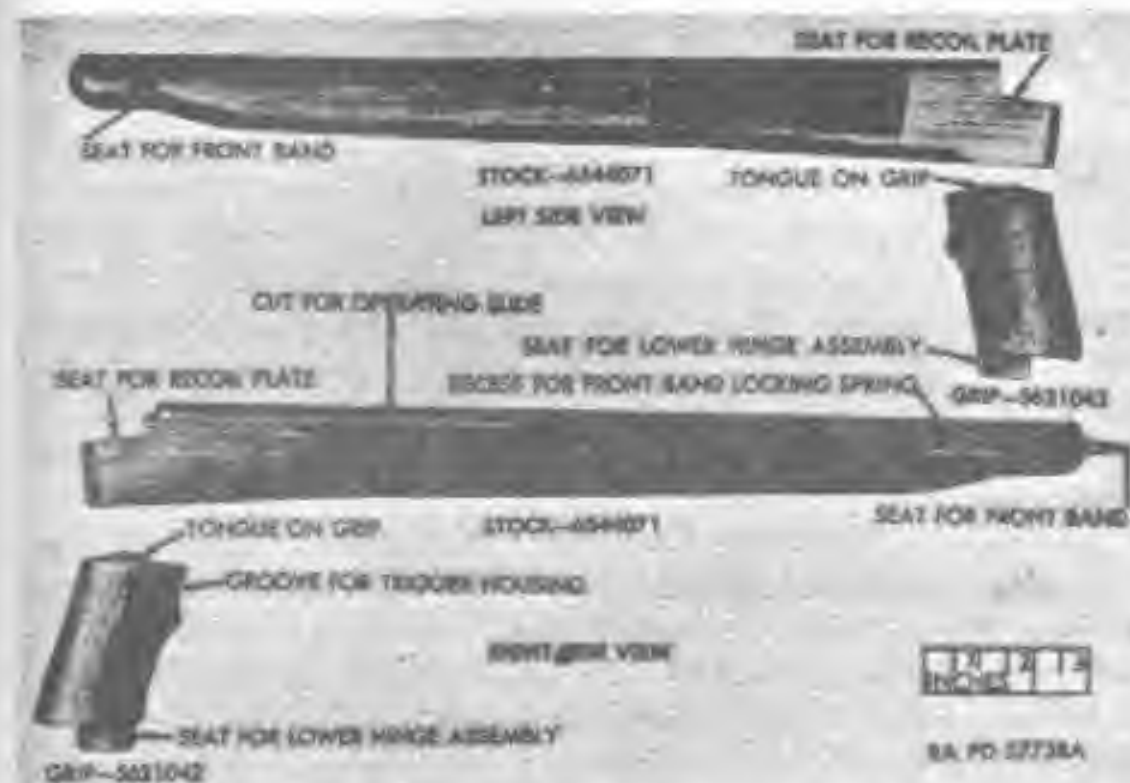

Figure 107. Stock and grip for carbine M1A1.
- a. Inspect corresponding parts of stock as for carbines M1, M2, and M3 (figs. 107 and 108). Refer to paragraph 61.